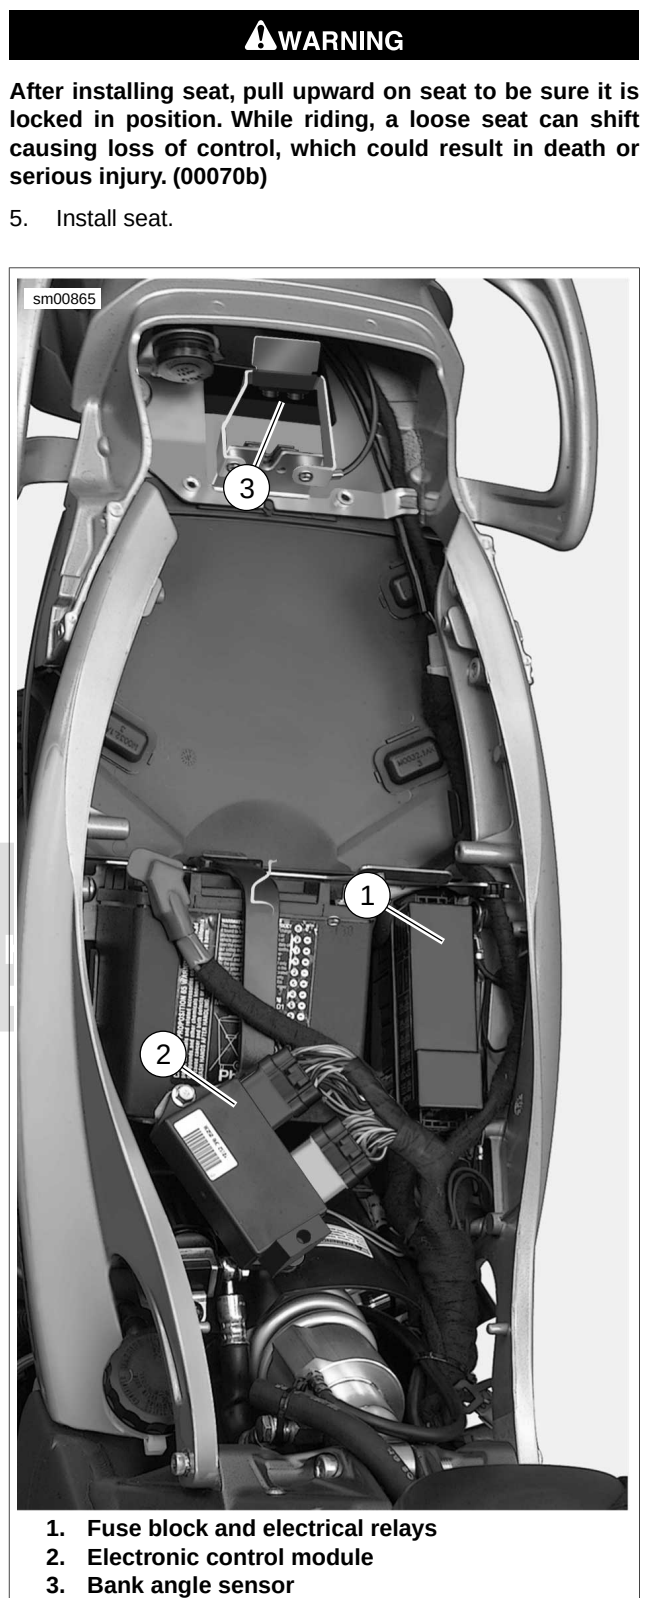

Figure 4-24. Bank Angle Sensor: Ulysses
1. See Figure 4-24. Install bank angle sensor to mounting tab with fasteners and tighten to 12-36 **in-lbs** (1.4-4.1 Nm).